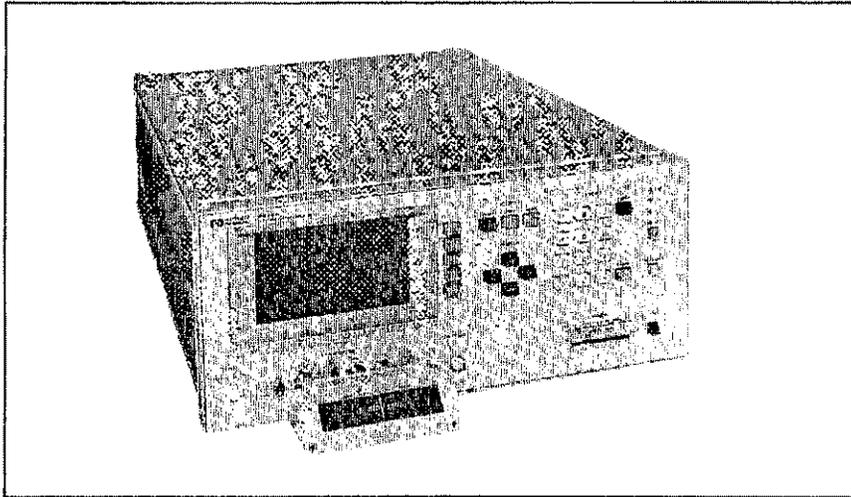

Figure 2-3. Test Fixture Connection
1. Connect a direct-coupled test fixture to the 4278A's **UNKNOWN** terminals as shown in Figure 2-3.